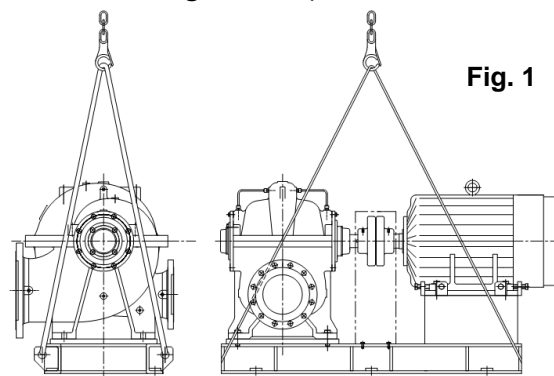

Fig. 1
1. To lift the pump, suspend with cable as shown In Fig. 1, so that loading is even. Please do not use excessive large size cable.
- (5) If storage is required after unpacking, place the pump indoors without fail. Before pump shipment, the coupling, flanges, shaft, and other external machined pump surface have usually been coated with rust preventative oil (NOX-RUST 366). Internal components have also been coated with rust preventative oil (RUST-VET 377).